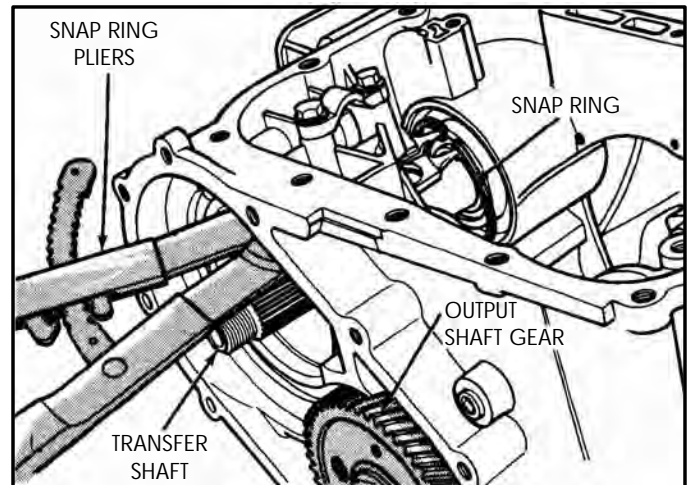

Figure 197
13. Install the transfer shaft bearing retainer snap ring using the snap ring pliers, as shown in Figure 197.